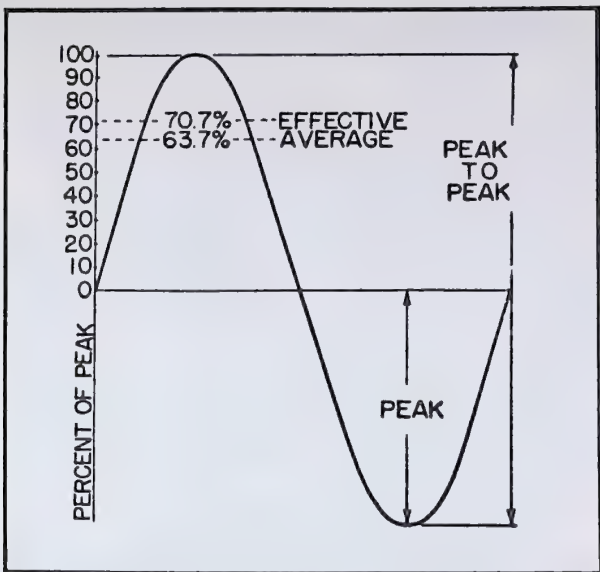

Fig. 8-2. Comparison sine wave.
Since the power dissipated by the lamp is a result of current through the lamp, the problem resolves to one of finding a mean alternating-current ampere that is equivalent to a steady ampere of direct current. Figure 8-2 shows a comparison between the various values that are used to indicate the value of a sine wave of voltage. As shown, the effective, or rms, value of the wave—which is the DC equivalent—is 70% (0.707) of the peak value.
**Peak Current.** One of the most frequently measured characteristics of a sine wave is its amplitude. The amount of alternating current or voltage present in a circuit can be measured in various ways. In one method the maximum amplitude of either the positive or negative alternation is measured. The value of current or voltage obtained is called the peak voltage or current. To measure the peak value of current or voltage, an oscilloscope or special meter (peak reading) must be used. The peak value of a sine wave is illustrated in Fig. 8-2; notice that the value is 100 when the average value is 63.7 and the rms value is 70.7.
**Average Current.** The average value of a complete cycle of a sine wave is zero, since the positive alternation is identical to the negative alternation. In certain types of circuits, however, it is necessary to compute the average value of one alternation. This can be accomplished by adding together a series of instantaneous values of the wave between  $0^\circ$  and  $180^\circ$  and then dividing the sum by the number of instantaneous values used. Such a computation would show one alternation of a sine wave to have an average value equal to 0.637 of the peak value, as shown in the comparison sine wave of Fig. 8-2.